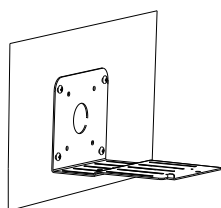

Figure 3-3
3. Align mounting bracket with hole; tighten screws.(Figure 3-3)